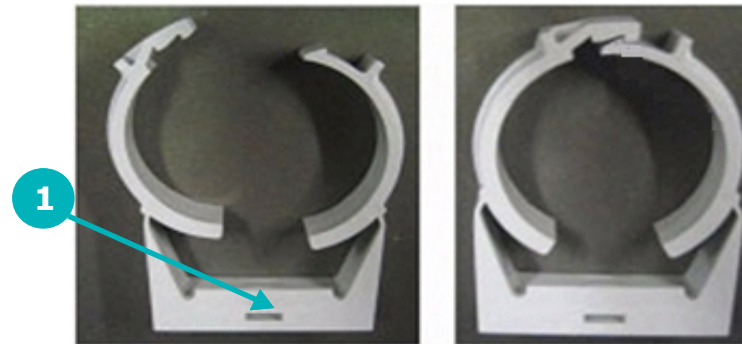

Figure 2-59: Primary Ink filter Clamp
- B. Insert flat blade screwdriver into filter clamp at location 1 in Figure 2-59 and twist to release clip.